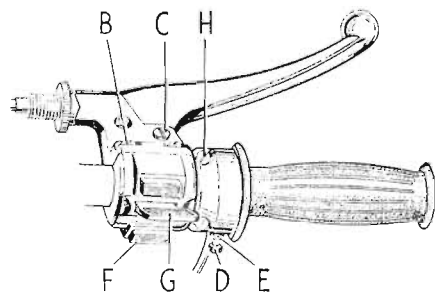

FIGURE 2.
**TWIST GRIP:**—Mounted on the right handlebar, it controls the throttle opening and consequently the motor speed. To open the throttle (i.e., to increase motor speed) turn the grip so that the top moves towards the rider. Excess slackness in the cable can be removed by means of an adjuster incorporated in the cable. The rotary stiffness of the twist grip can be varied by means of the adjuster screw (D) FIG. 2, and locknut (E). It is set for average requirements when leaving the factory, but can be readjusted to suit individual preference.
**FRONT BRAKE:**—The lever is mounted on the right handlebar in front of the throttle control and its position can be adjusted after slackening the screws (B) FIG. 2. The looseness of the lever is adjusted by rotation of screw (C) after slackening its locknut. Grip the lever gently to operate the brake. The main adjuster for the 6" diameter brake is situated midway in the cable. Finger adjustment for the cable is provided at the adaptor on the handlebar lever. Provision is made on the lever body for a Motoplas rear view mirror.